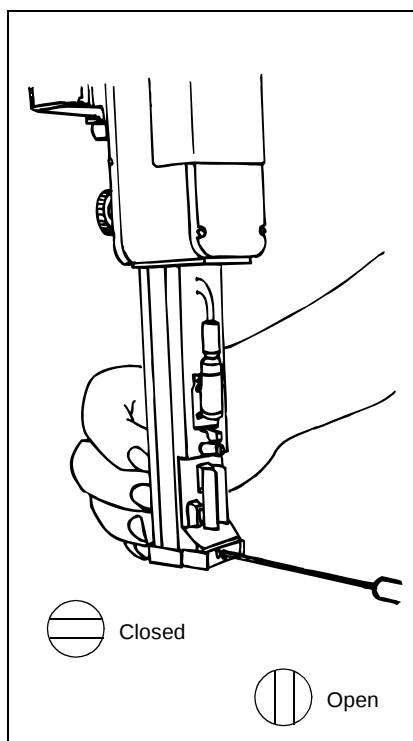

Figure 1
- Close the recuperation gutter (Figure 1).